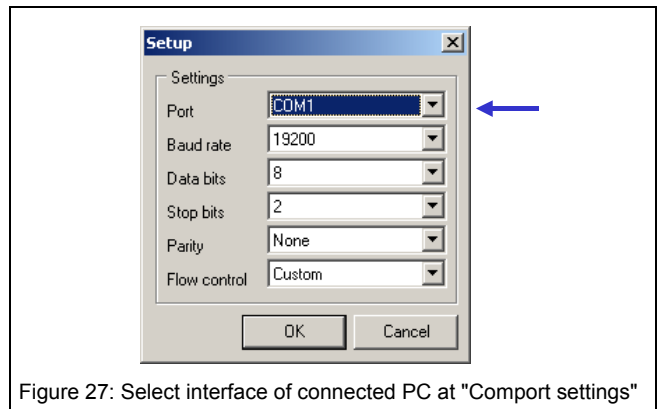

Figure 27: Select interface of connected PC at "Comport settings"
The COM port must be selected according to the HW settings of the PC (Figure 27).
3. Select the appropriate COM interface from the menu bar, under: Options \Comport settings (Figure 27)